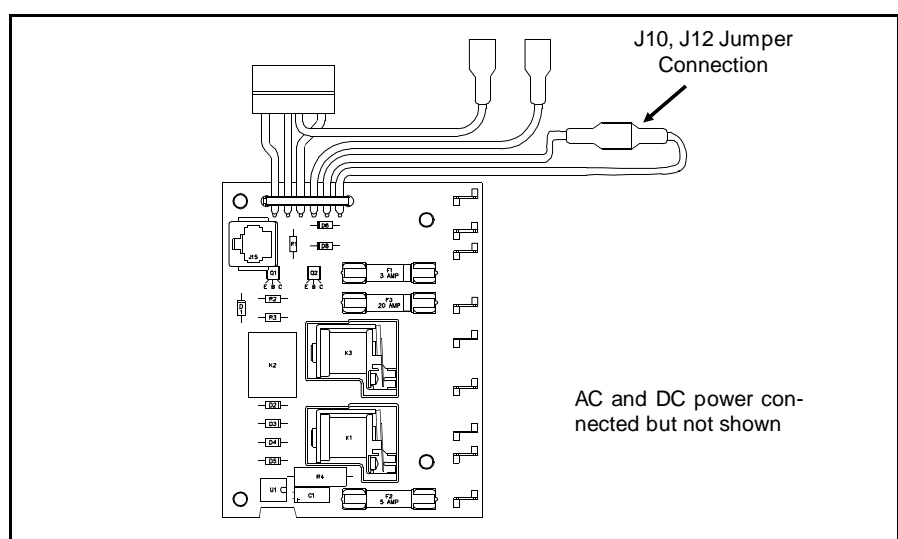

Figure 11.25 Single Door Power Supply
10. For the single door models, check that the two blue wires, terminals J10 & J12, are connected together as shown by Figure 11.25.
- A. If you do not have 11-12 volts as shown, connect J10 and J12 together as shown in Figure 11.25 (two-door models only).